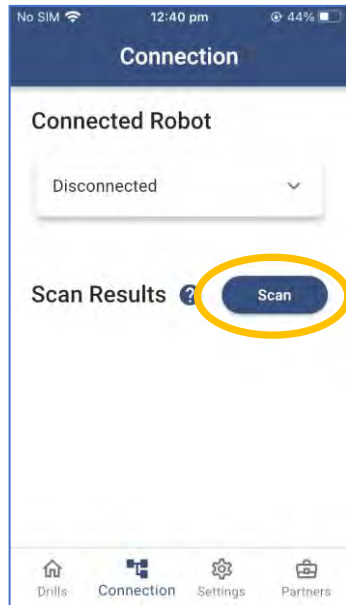

Figure 2-13
4. After pressing the Skip button, you will be presented with the Drills screen (Figure 2-12). Before using a Drill, we must connect our Android/iOS device to the robot. Press the Connection button on the bottom of the Android/iOS Power Pong Robot application (Figure 2-13).
5. Press the Scan button, so that the Power Pong Robot Application can "search" for the robot. It should find the robot called Power Pong robot (Figure 2-13).